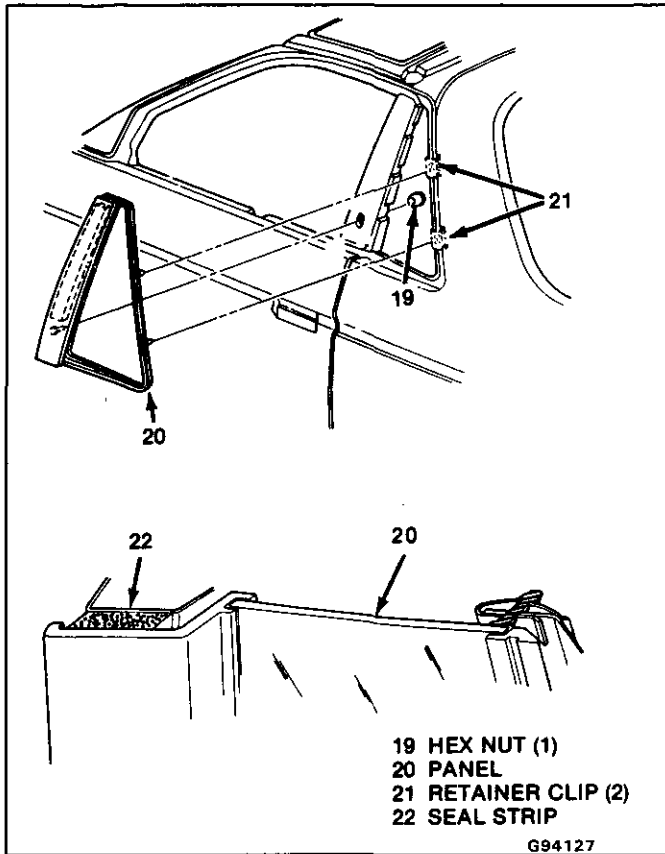

Fig. 10-Applique Panel Assembly
**↔** Remove or Disconnect (Figure 10)
3. Hex nut (19)
**↔** Install or Connect (Figure 10)
1. Two retainer clips (21) to roof panel
2. Panel (20)